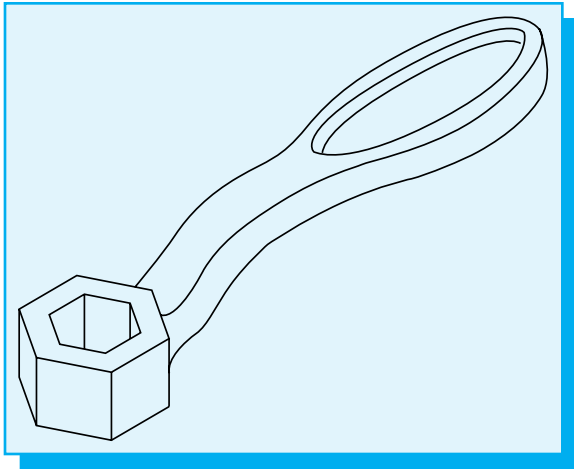

**Figure 3-51**
5. Sketch the tool-bit holder in **Figure 3-51**.